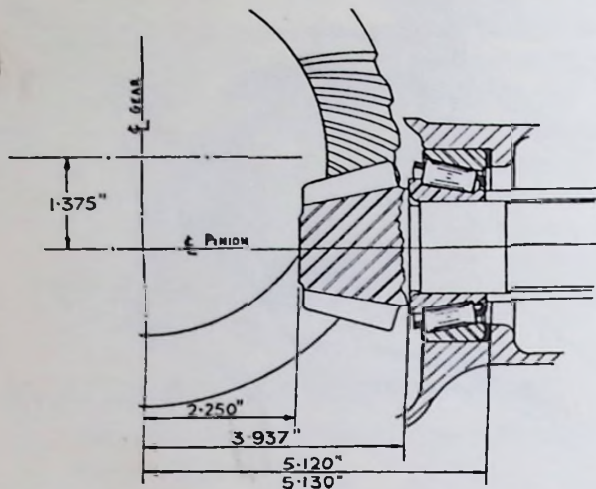
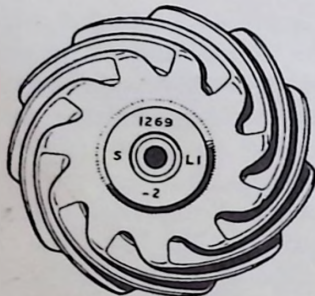

Fig. 23.
Fig. 24.
The correct pinion setting is marked on the ground end of the pinion as shown in *Fig. 24*. The matched assembly serial number at the top is also marked on the drive gear, and care should be taken to keep similarly marked gears and pinions in their matched sets, as each pair is lapped together before despatch from the factory. The letter on the left is a production code letter and has no significance relative to assembly or servicing of an axle. The letter and figure on the right refer to the tolerance on offset or pinion drop, dimension 1.375" (34.925 mm.) in *Fig. 23* which is stamped on the cover facing of the gear carrier housing. When ordering spares, specify the offset required if the best performance is to be obtained. Thus, L1. carrier requires L.1. gears, or H.2. carrier requires H.2. gears.
The number at the bottom gives the cone setting distance of the pinion and may be Zero (0), Plus (+) or Minus (-). When correctly adjusted, a pinion marked Zero will be at the zero cone setting distance, dimension 2.250" (57.15 mm.) in *Fig. 23*, from the centre line of the gear to the face on the small end of the pinion ; a pinion marked Plus Two (+2) should be adjusted to the nominal (or Zero) cone setting plus .002" (.051 mm.), and a pinion marked Minus Two (-2) to the cone setting distance minus .002".